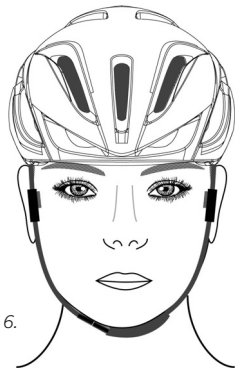

Fig. 6.
- *Fig. 6* shows how the helmet will look from the front when adjusted correctly.